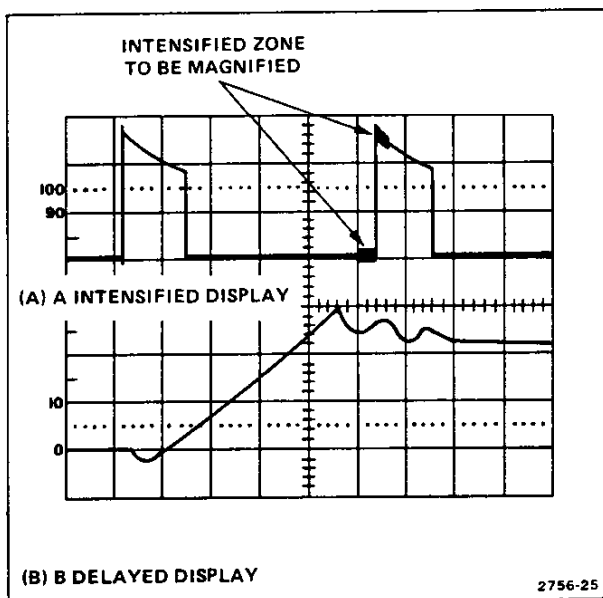

Figure 20. Delayed-sweep magnification.
6. Adjust the B DELAY TIME POSITION control to position the start of the intensified zone to the portion of the display to be magnified (see Figure 20).
7. Set the B SEC/DIV switch to a setting which intensifies the full portion of the A trace to be magnified. The intensified zone will be displayed as the B trace (see Figure 20). The B HORIZONTAL MODE may also be used to magnify the intensified portion of the A Sweep.